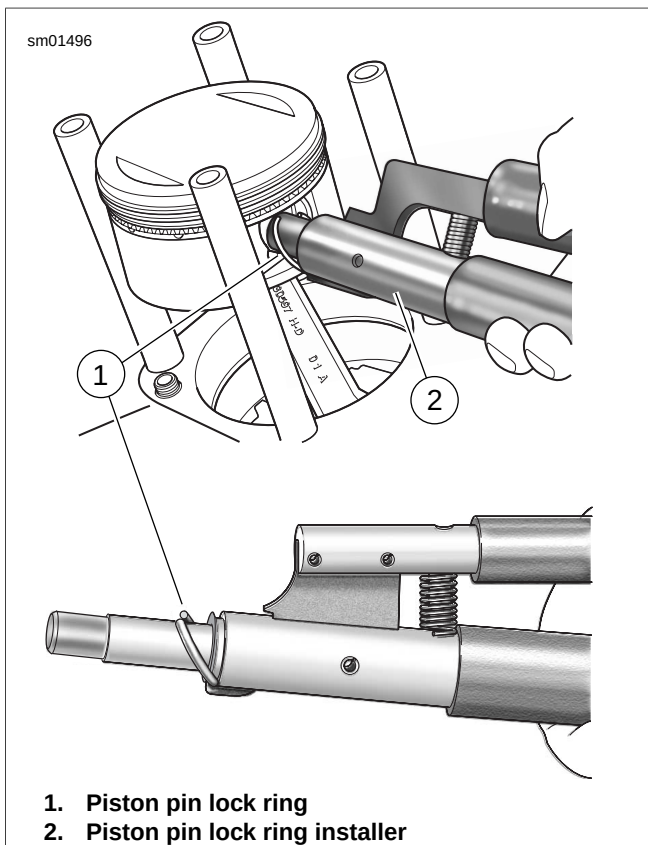

Figure 3-50. Removing Piston Pin Lock Ring
7. See Figure 3-50. Remove piston pin lock ring as follows: